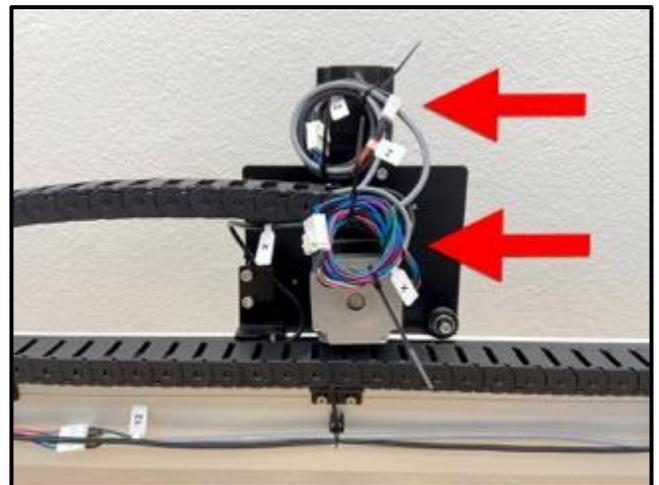

Figure 9-7
1. Collect the X-cables and neatly bundle them behind the X-motor. See *Figure 9-7*.
3. Collect the Z-cables and neatly bundle them behind the Z-motor. See *Figure 9-7*.
4. Use two (2) cable ties to secure the Z-cables.